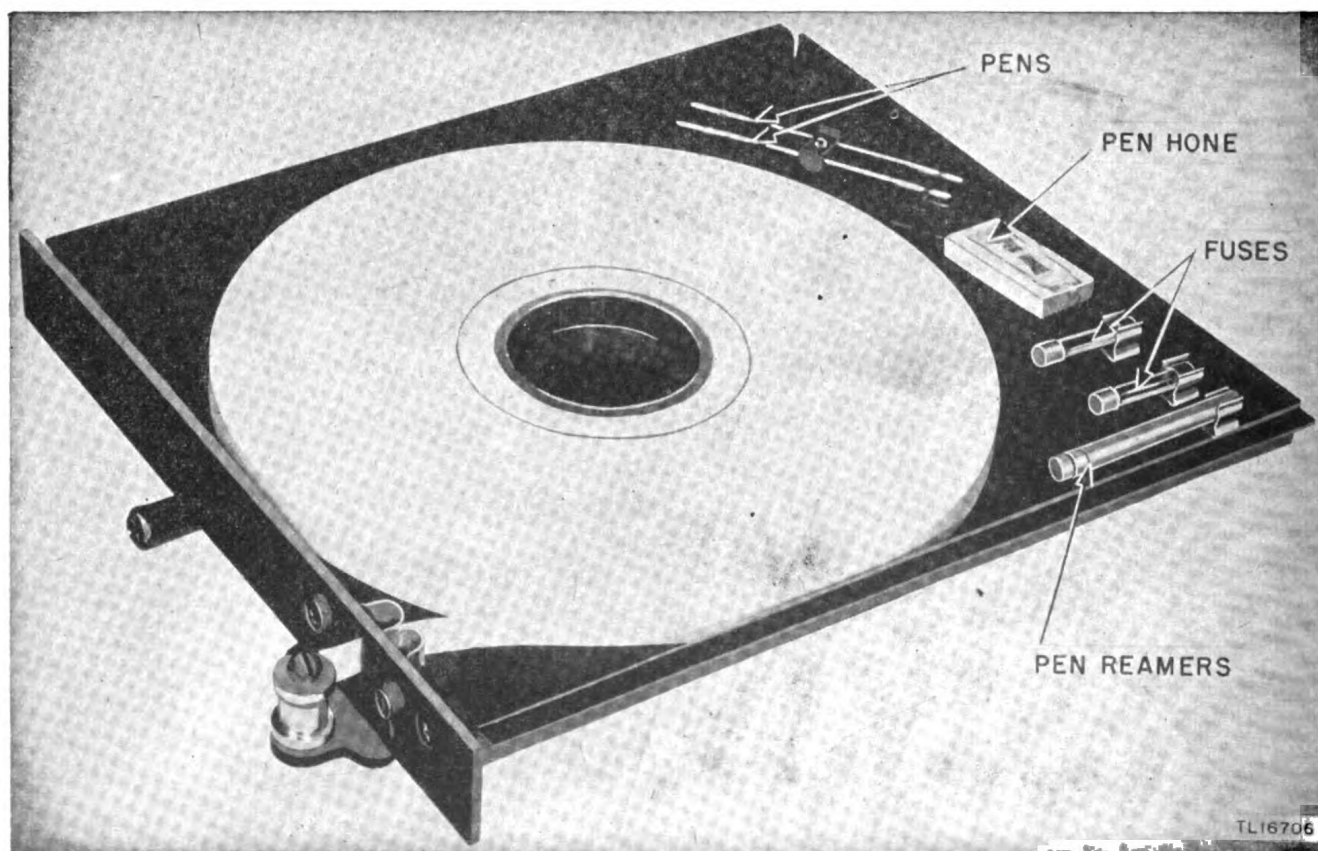
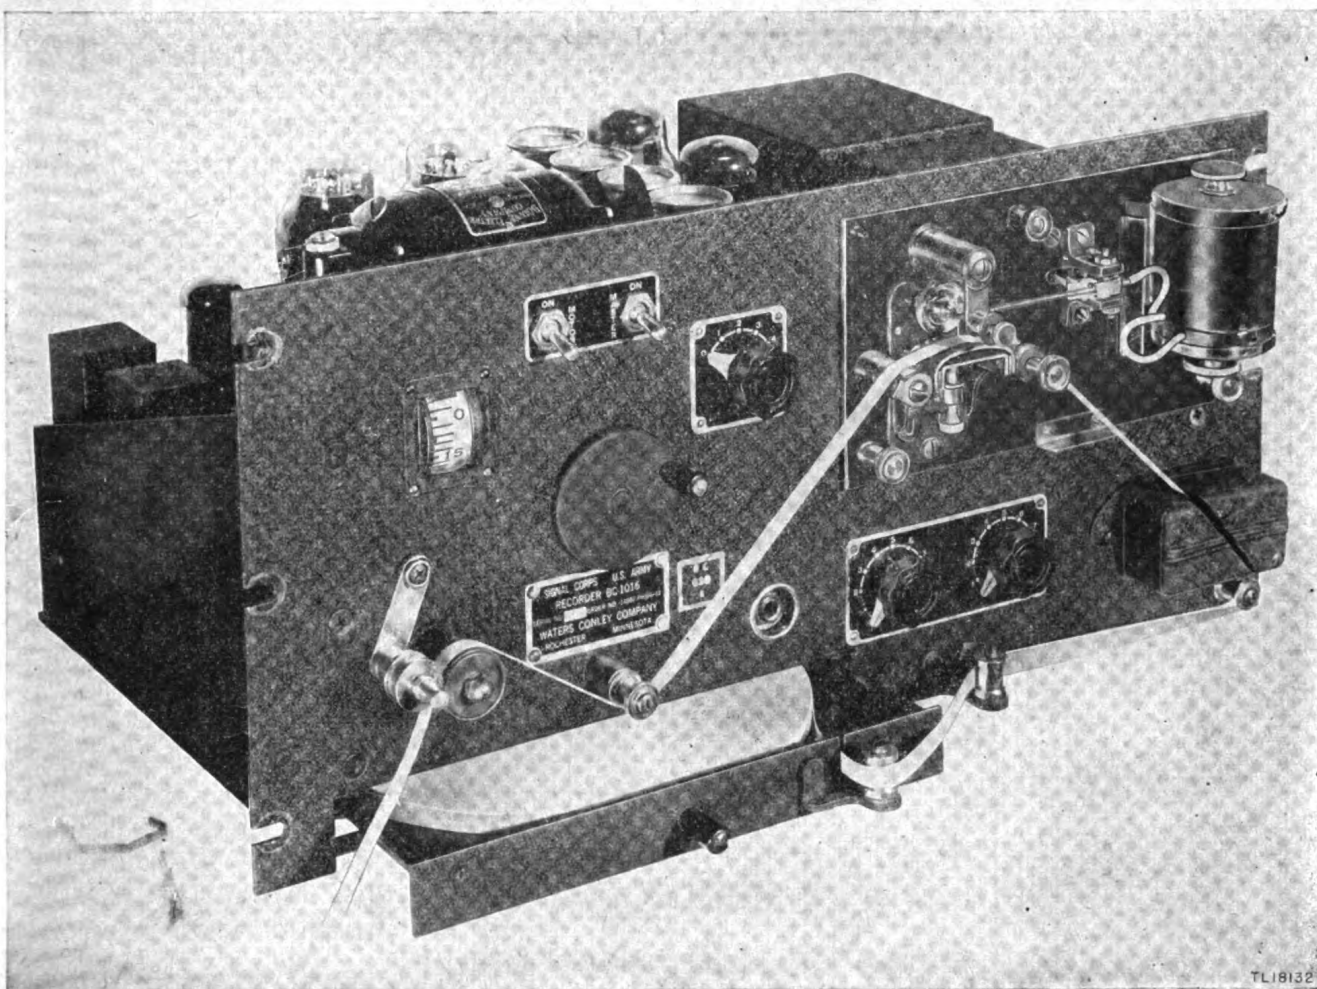

Figure 16. Location of tape in drawer.
Figure 17. Recorder with tape in position for operation.
a. PRELIMINARY PROCEDURE. (1) Place roll of tape in drawer as shown in figure 16 and thread it through tape guide rollers, dust collector, and tape drive roll as shown in figure 17. Adjust tape guide roller (44) so that tape is centered on anvil.
(2) Adjust pen stopscrews for pen swing of about $\frac{3}{16}$ inch. Fill ink cup about $\frac{2}{3}$ full. Adjust anvil so pen just touches tape.
(3) Check value of fuse. For operation on 117-170 volts, a 3-ampere fuse is used; for 210-240 volts, a $1\frac{1}{2}$ -ampere fuse is used. Check a-c input switch (188) for correct operational voltage.
(4) Connect a signal source. The most reliable test of recorder operation is obtained by recording an actual continuous-wave (c-w) signal. Use a receiver such as Radio Receiver BC-312-() or BC-342-() and select a code transmitting at least 250 words per minute. Output of receiver should be at least 5 volts for recorder operating test. See TM 11-441 if additional operating information is required.